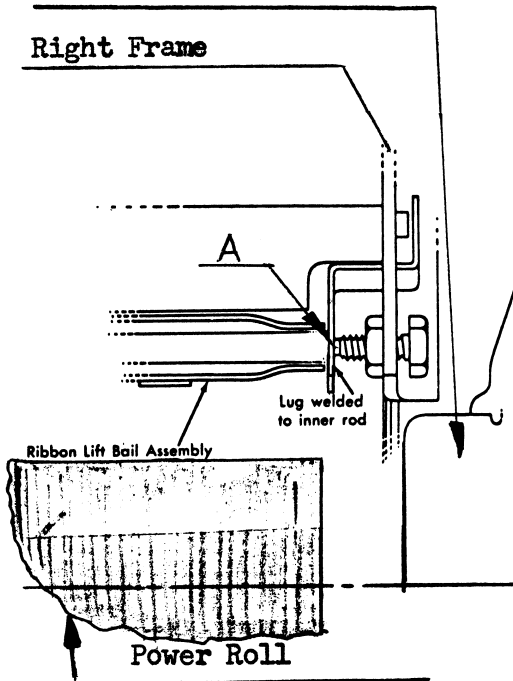

Fig. 4 RIGHT HAND END RIBBON LIFT BAIL (SHOWN FROM UNDERNEATH TYPEWRITER)
4. RIBBON LIFT BAIL Lubricate both ends of ribbon-lift-bail-assy (Page 6, Fig. 4, Point A).